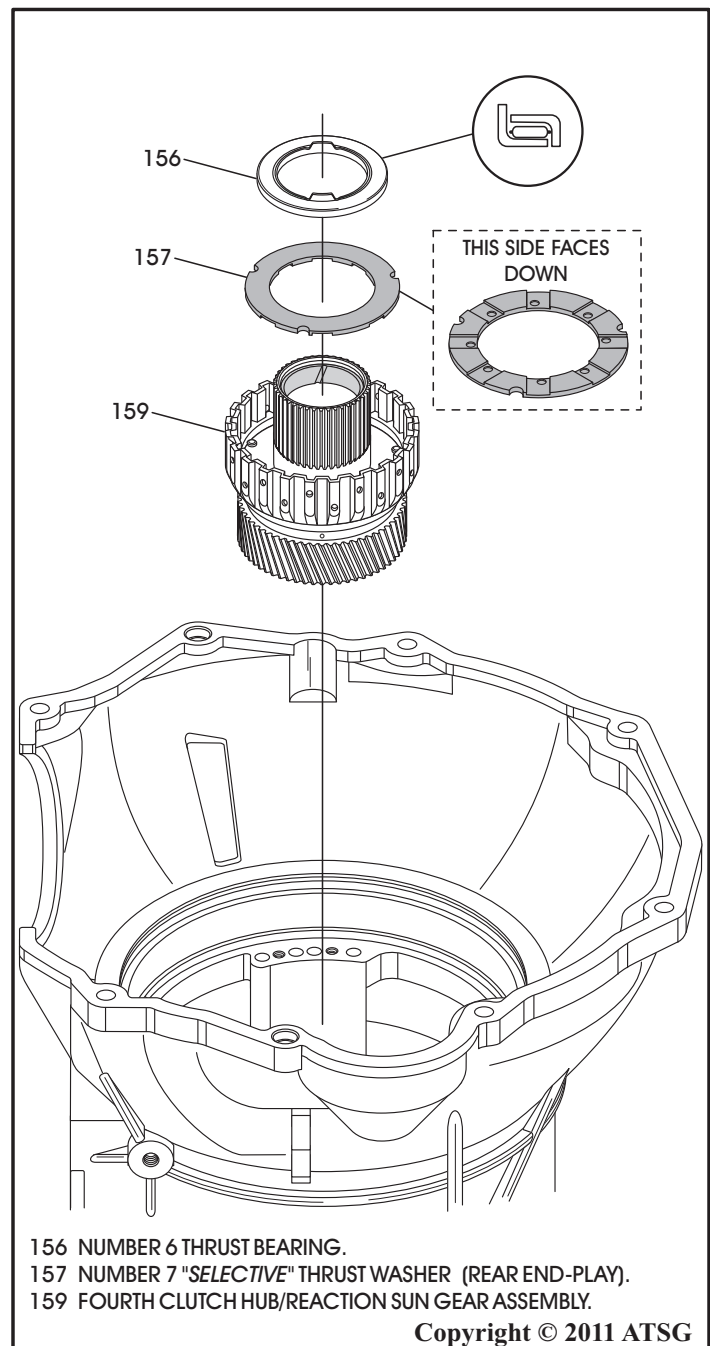

Figure 144
12. Ensure the number 7 selective thrust washer and number 6 thrust bearing on the pre-assembled 4th clutch hub/reaction sun gear are still seated properly and install assembly into transmission by rotating into position (See Figure 144).